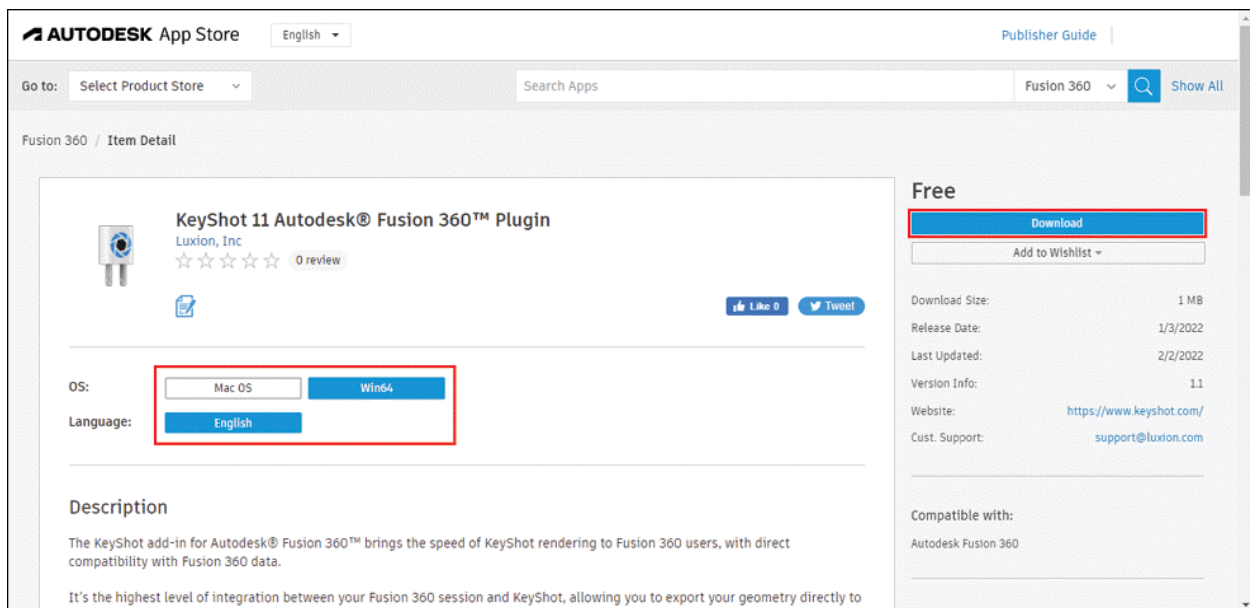

Figure-85. Downloading App
- Select desired app, set the operating system option, and click on the **Download** button from web page; refer to Figure-85. The software will start downloading.